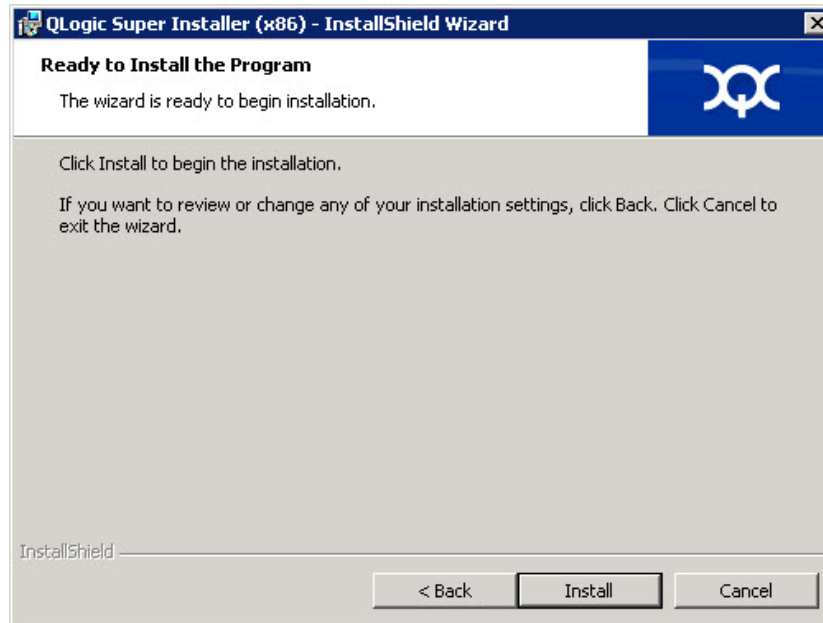

Figure 2-6. InstallShield Wizard: Ready to Install the Program Window
7. In the InstallShield Wizard's Ready To Install window (Figure 2-6), click **Install**.